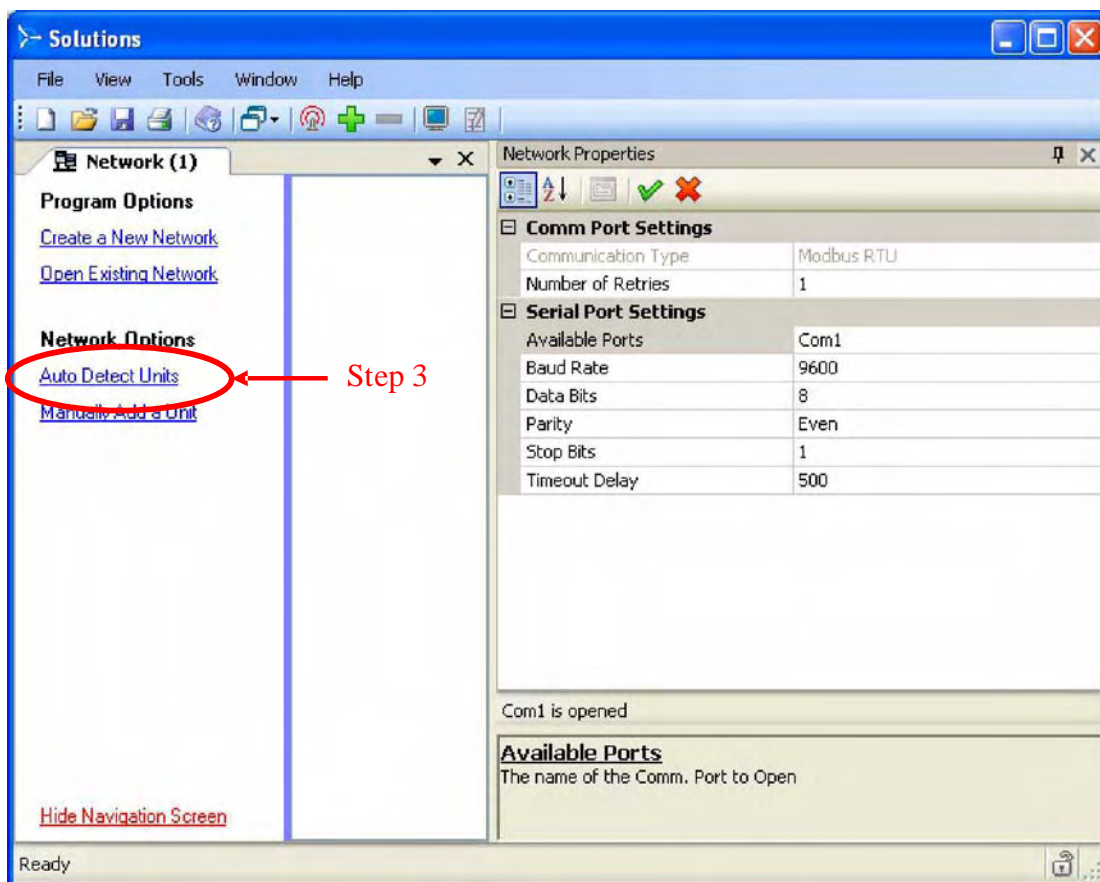

Figure 3-Empty Network View
Step 3. Click **Auto Detect Units** on left hand navigation pane (see Figure 3-Empty Network View)